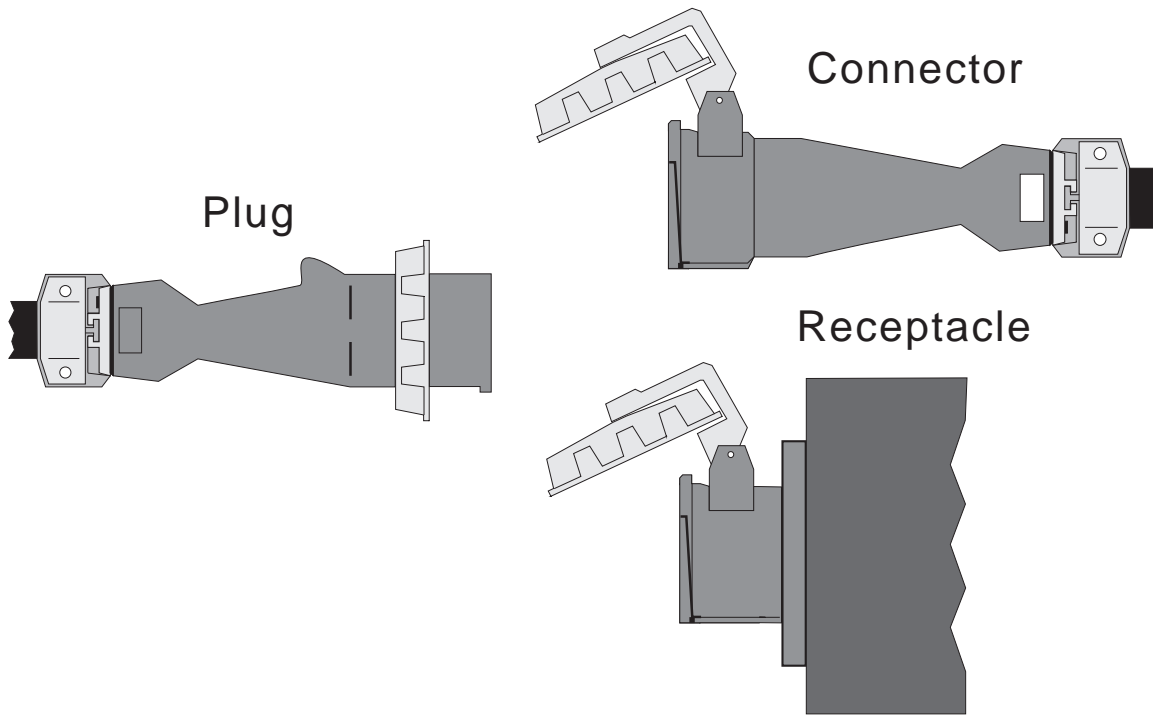
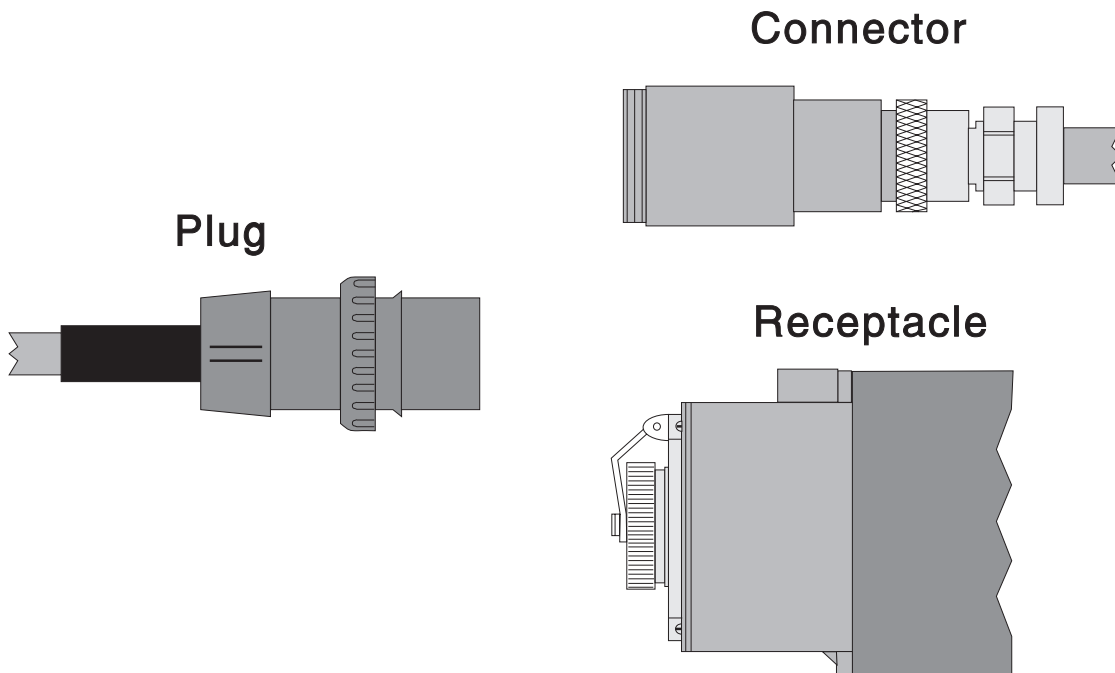

Figure 3-116. Three-Phase Power Connectors (U.S.)
Figure 3-117. Single-Phase Power Connectors (U.S.)
2. Insert wires into pin assembly as indicated in Figure 3-115. Secure by tightening retention screws. Figure 3-116 on page 3-147 shows a typical pair of three-phase power connectors. Figure 3-117 on page 3-147 shows a typical pair of single-phase power connectors (used with the 49-inch frame).